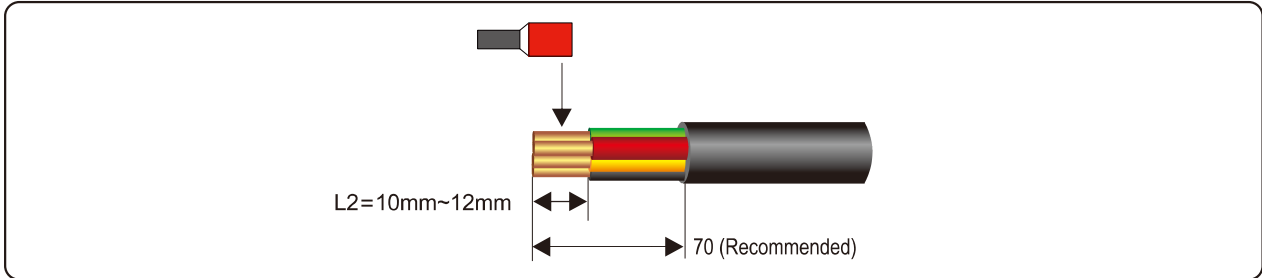

Figure 5.4 Stripped length (unit: mm)
**Step 1** Remove an appropriate length of the jacket and insulation layer from the AC output cable by using a wire stripper, as shown in Figure 5.4.